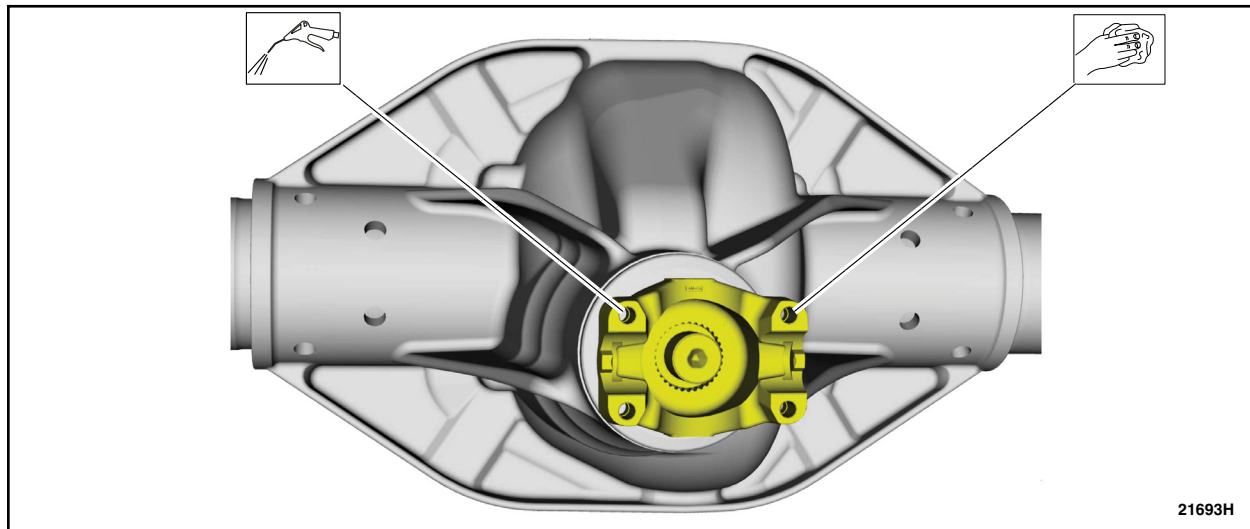

FIGURE 17
20. Using an air blow gun, remove any debris from threaded holes in axle flange. See Figure 17.